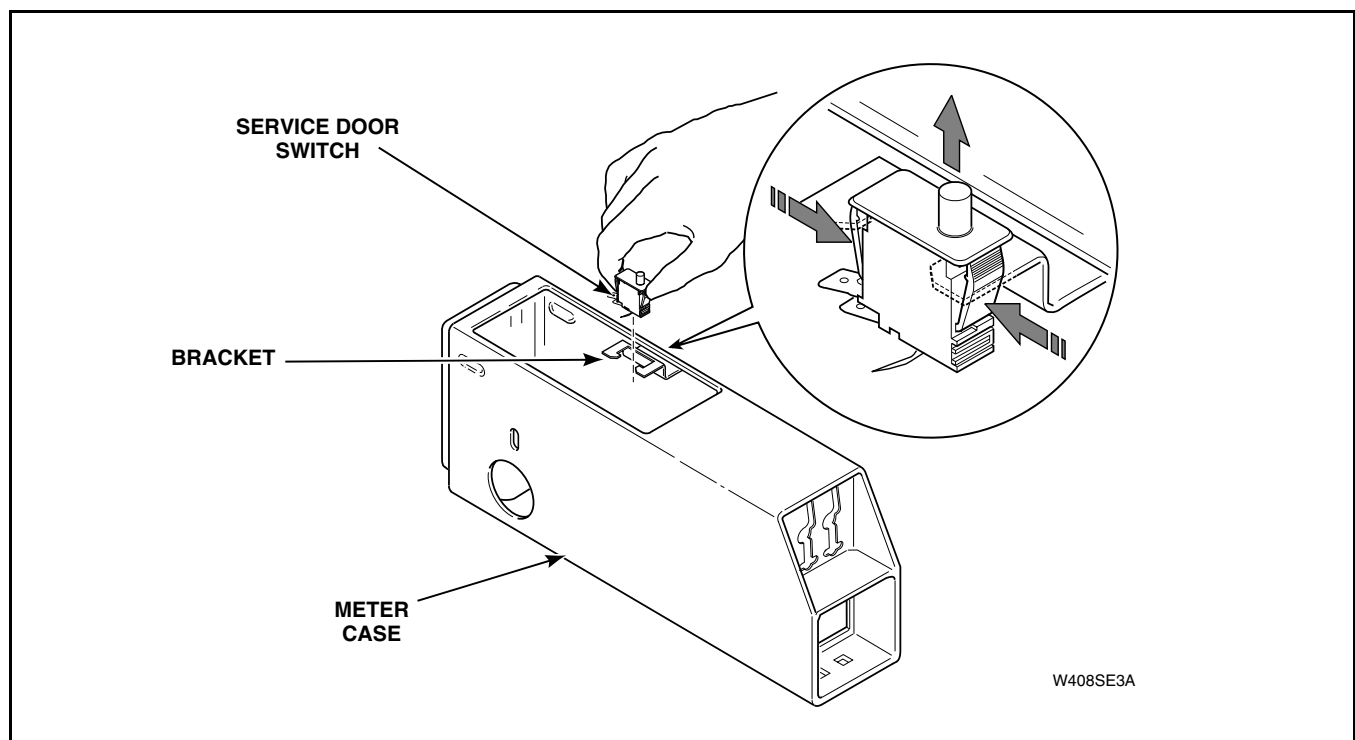
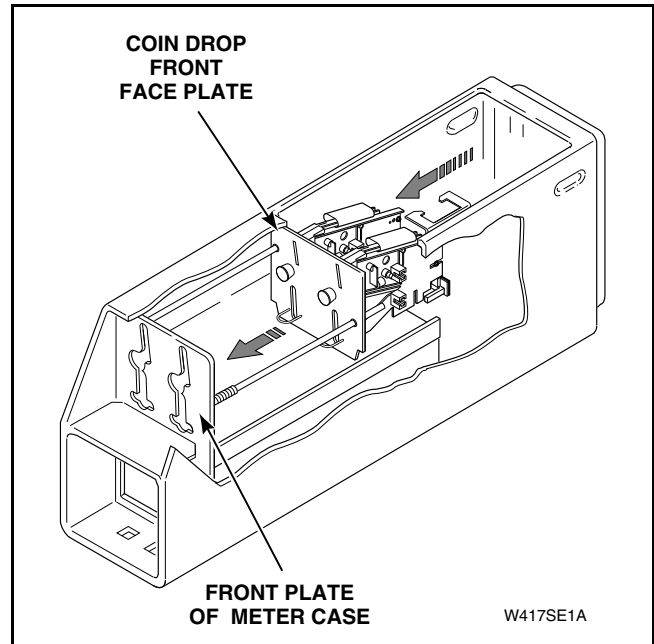

Figure 15
Figure 24
- (2) Disconnect wire harness from coin drawer switch and disconnect coin drops at disconnect plugs.
- (3) Press in on locking tabs of service door switch and remove switch from bracket on meter case, as shown in *Figure 15*.
- (6) Carefully slide coin drop forward into position, as shown in *Figure 24*. (Front face plate of coin drop should be secure against front plate of meter case.)
- (7) Using a 7/16 inch socket with No. 310P4 1/4 inch Ratchet Extension Tool, reinstall the two locknuts previously removed. Tighten locknuts firmly.
- (8) Reinstall coin drawer switch previously removed.
- (9) Reconnect wires by referring to the wiring diagram located inside the control hood.
- (10) Reinstall service door switch and wire harness into meter case bracket. Refer to *Figure 15*.